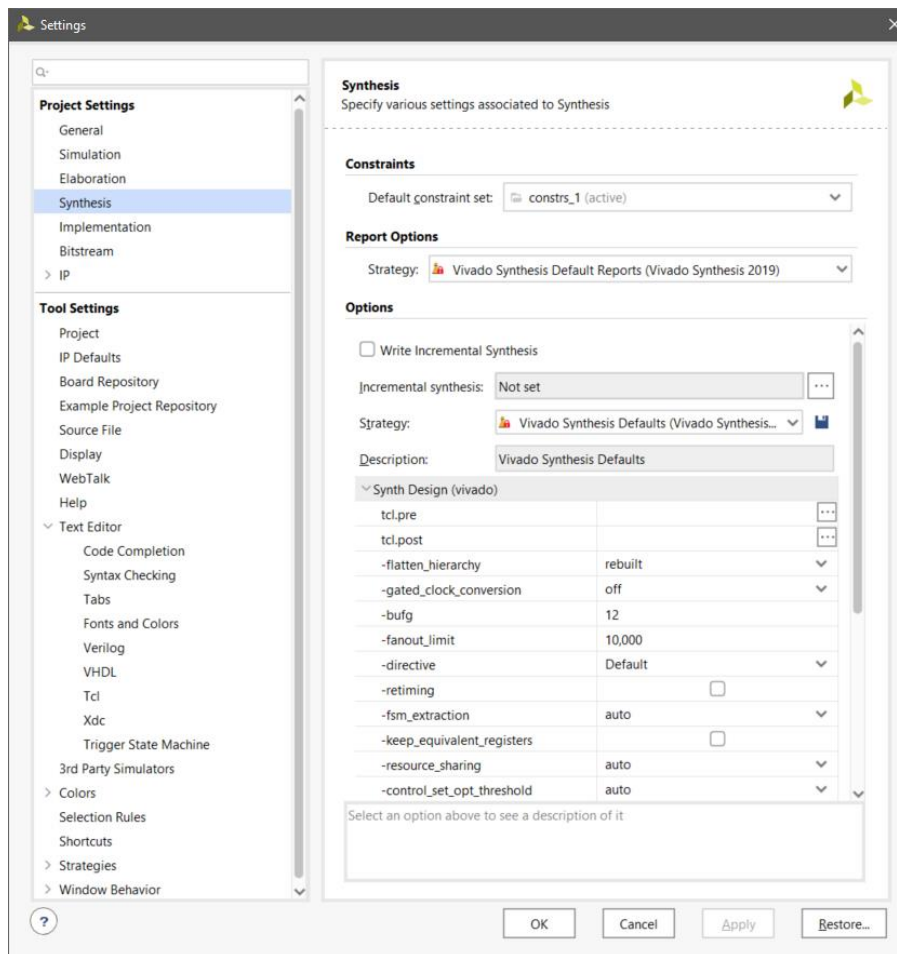

Figure 15
3. This allows us to view the full set of process properties available (Figure 15)